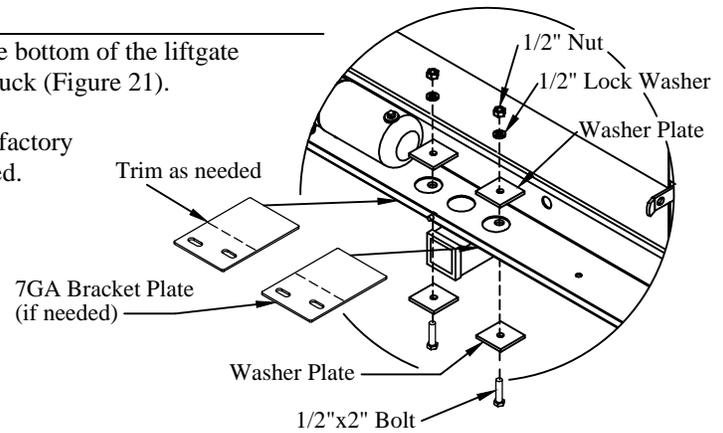

Figure 21: Lower bracket support (Class 5 hitch).
- 1. Assemble** the supplied hardware through the outer two holes in the bottom of the liftgate mainframe and the two holes in the factory hitch plate on the truck (Figure 21).